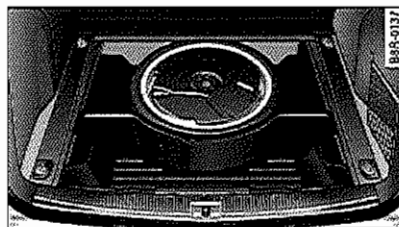

Fig. 226 Inflatable spare tire with compressor
- Turn the large screw \Rightarrow fig. 226 counter-clockwise.